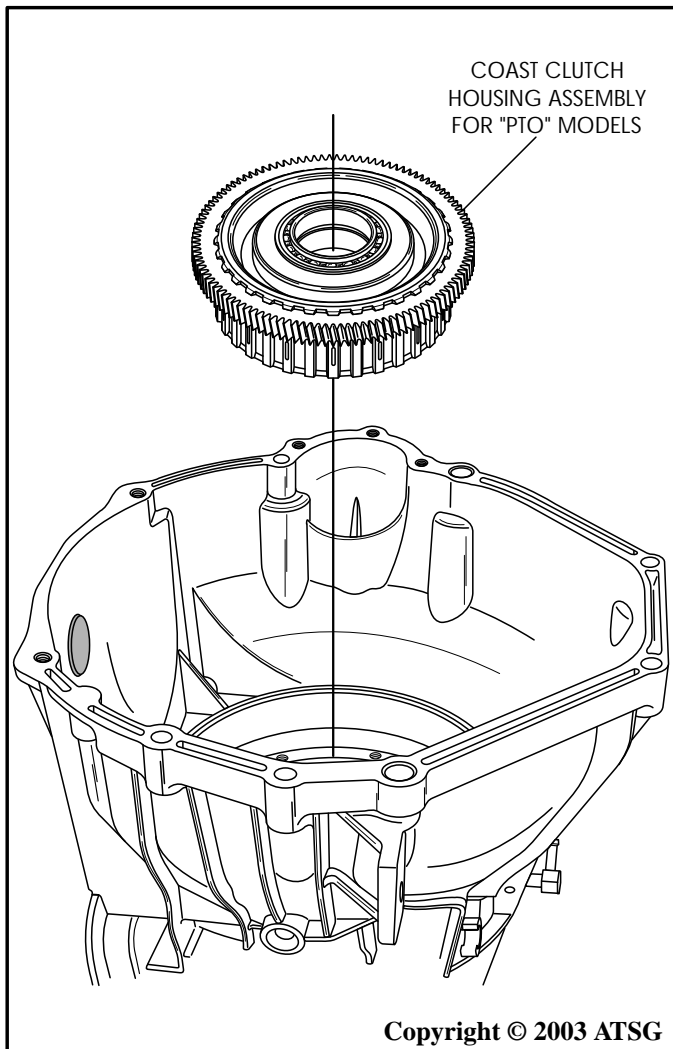

Figure 58
7. Remove the coast clutch housing, as shown in Figure 58, and set aside for component rebuild section.